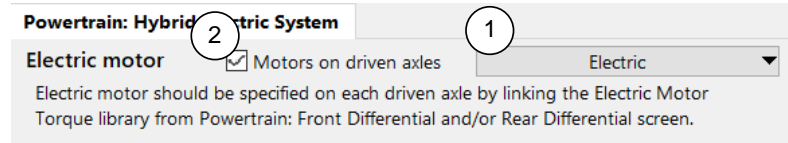

Figure 7. Option for motors on a driven axle.
- ② **Motor on driven axles** check box (keyword = `OPT_MOTOR_ON_AXLE`). If this checkbox is checked, a motor is installed on each driven axle and the electric motor link is hidden from this screen (Figure 7). In this case, the electric motor library can be linked from the differential screen for each driven axle.